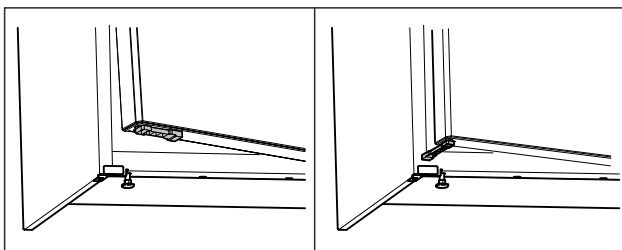

Fig. 54 \*
- ▶ Turn door opening limiter by 90°. (see Fig. 54) \*